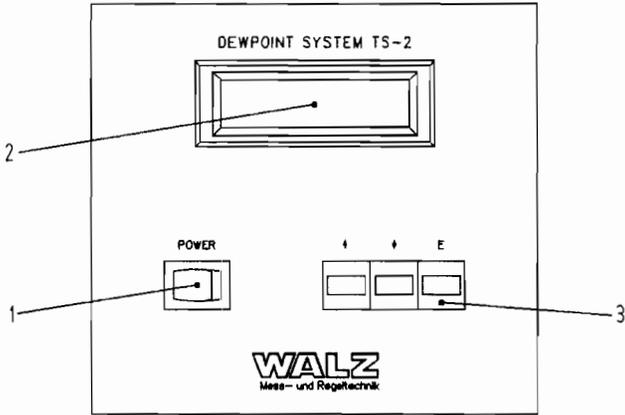
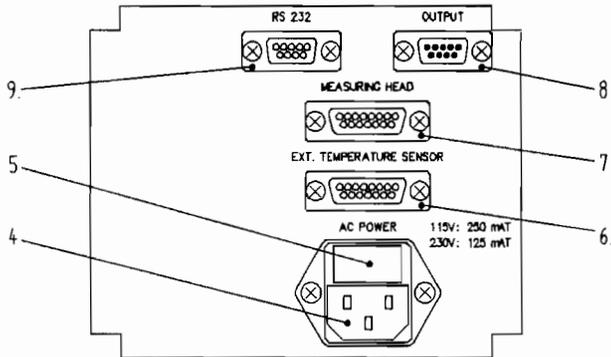

Fig. 2: Frontplate of the Control and Display Unit TS-2
Fig. 3: Rear panel of the Control and Display Unit TS-2
The control and display unit includes a data acquisition system. The data memory is backed up by a lithium battery, i.e. the data are retained even after the device is switched off. The life of the battery is approx. 10 years. The frontplate of the control and display unit (see Fig. 2) features the On/Off switch (1), the LC display (2) and the three pushbuttons (3). The rear panel of the control and display unit (see Fig. 3) contains the mains connection (4) with fuse holder (5), the connectors for the measuring gas sensor (6) and the dewpoint mirror measuring head (7), the analog and alarm outputs for dewpoint and measuring gas temperature (8) and the RS 232 interface (9). The application possibilities offered by the hardware and software are described in Chapter 5. (Functions).